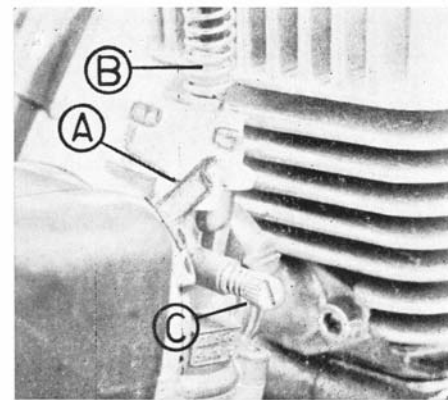

fig. 11
- If the engine is cold, push down the CHOKE LEVER mounted in the carburetor (fig. 11-A).